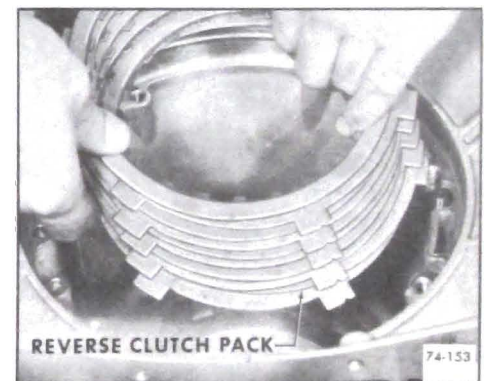

Figure 74-153
3. Remove reverse clutch pack from transmission case. See Figure 74-153.